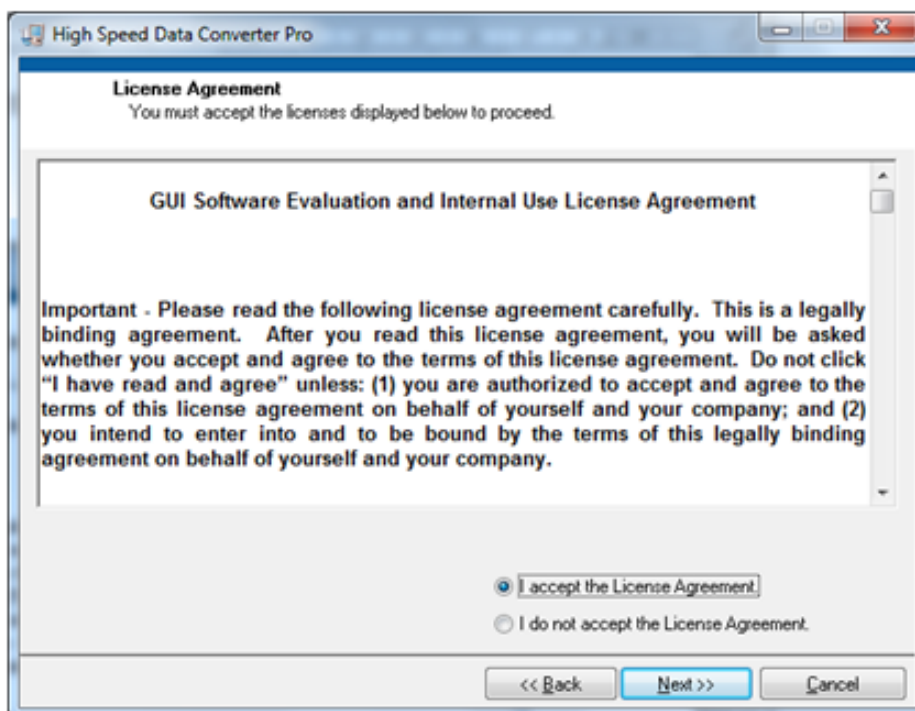

Figure 4. HSDCpro Install (c)
- Read the License Agreement from Texas Instruments and select *I accept the License Agreement* and press the *Next* button as shown in Figure 4.